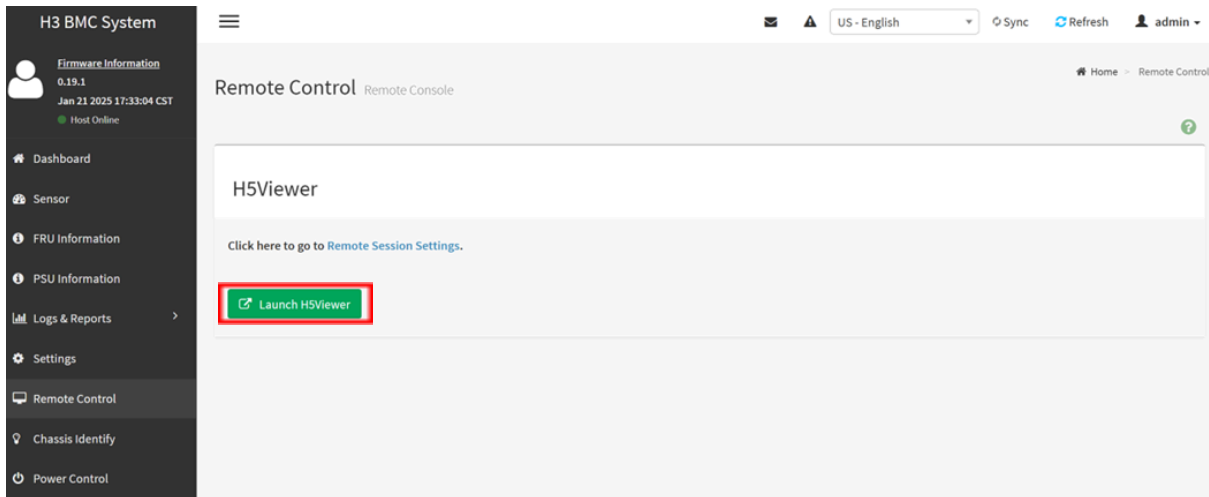

Figure 101. Launching H5Viewer from the Remote Control Tab
- B. Click on Launch H5Viewer to access the KVM interface (refer to Figure 101).